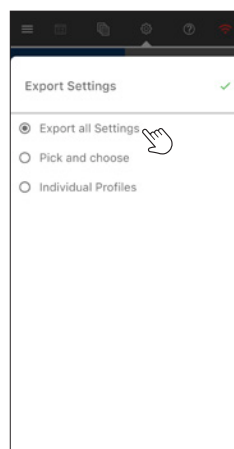

Figure 1
**Step 2:** In the popup window, select one of the three options (Figure 1, 2 and 3) then tap the **checkmark** button to confirm the selection